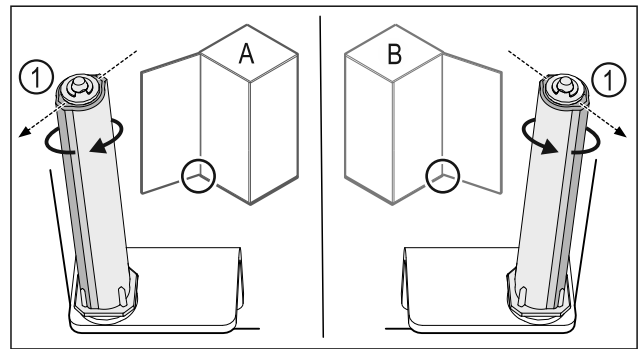

Fig. 46 Left stop (A) / right stop (B)
- ▶ Turn the locking system against the resistance until the bar on the locking system Fig. 46 (1) is pointing outwards.